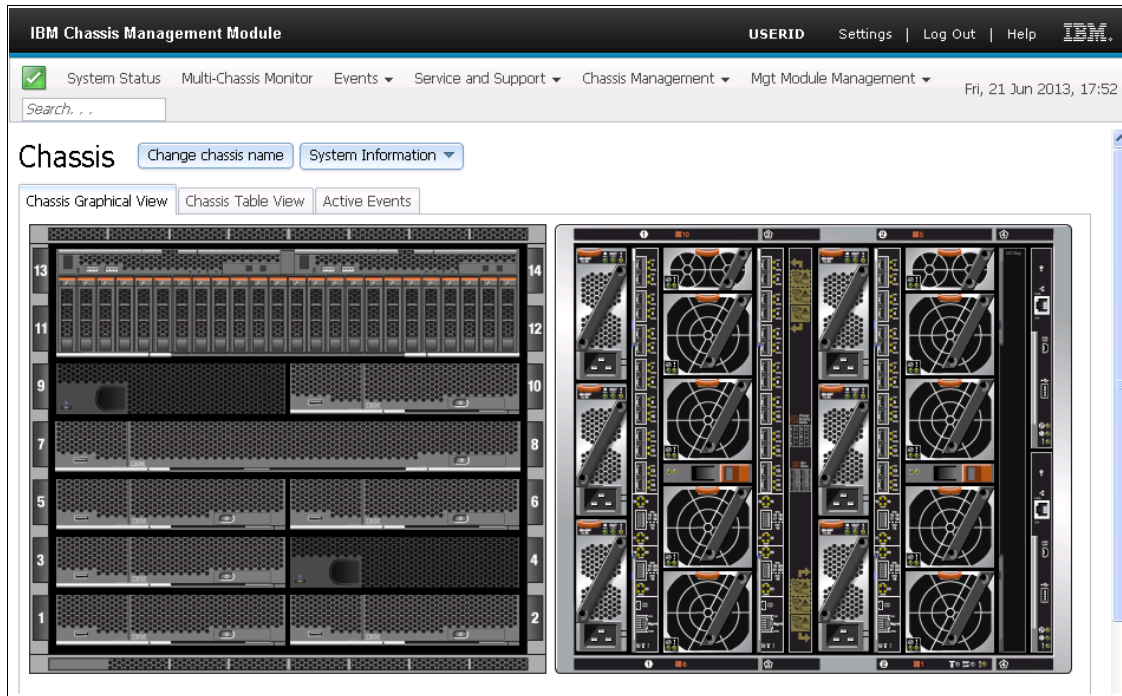

Figure 7-9 CMM opening view: System Status
2. Log in with your user ID and password. The System Status window of the CMM opens, as shown in Figure 7-9 on page 206, with the Chassis tab active. If not, click **System Status** from the menu bar at the top of the window.